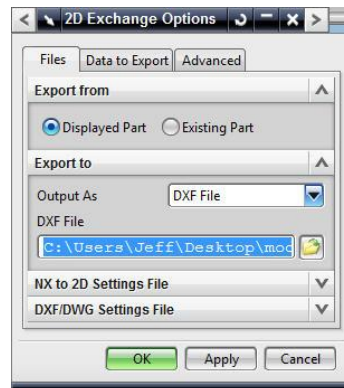

Figure 9
- g. Under "Export to" heading, **Select DXF File** if a (*.dxf) file is desired (shown Figure 9). **Select DWG** if a (*.dwg) file is desired.